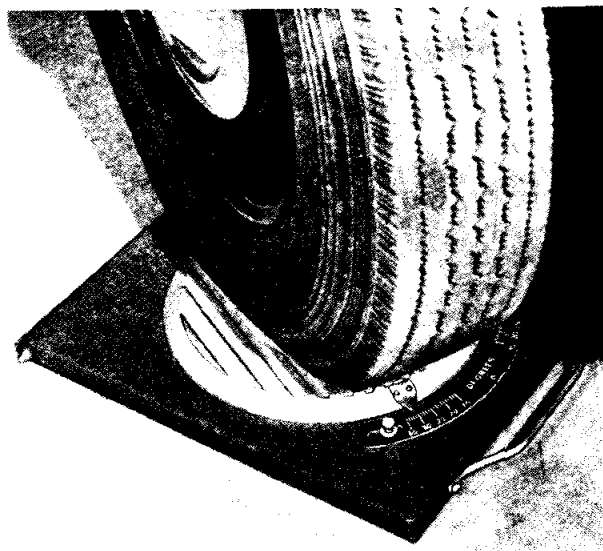

Fig. 4 Showing Use of Wheel Turning Measure for setting Steering Lock—V.L. Churchill Turning Measure Tool No. 121U.
- (a) Select a space of level ground and run the car gently forward so that the front wheels run on to the Churchill Turning measure and the back wheels on to blocks as high as the Churchill gauge (Fig. 4).